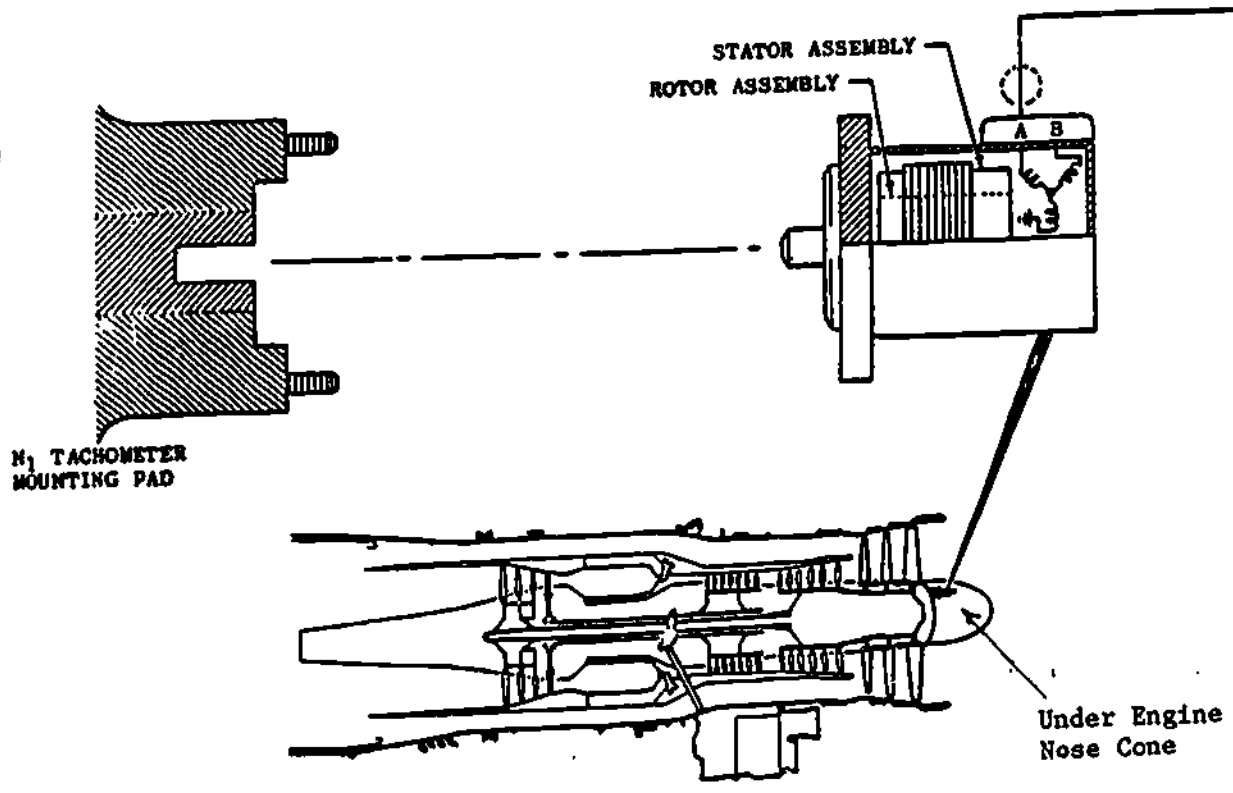

Figure 15.
The N-1 overspeed system consists of a tachometer generator identical to the one discussed previously in this text. In addition, the system contains an N-1 overspeed converter and an engine overspeed caution lamp which replaces the indicator for the system. The pilot sees only a go/no go warning of N-1 overspeed trouble. Study figure 15 on the next page to determine the relationship of the N-1 overspeed system components.
Using figure 15, mark the following statements as True (T) or False (F).